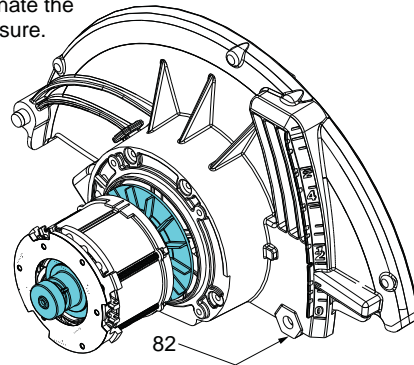

Figure 2
- Insert the rotor/stator assembly into pinion bore of the Upper Guard Gearcase Assembly (82). Carefully wiggle and push the rotor/stator until the ball bearing in front of the fan is fully seated in the bearing bore of the gearcase. See figure 2.